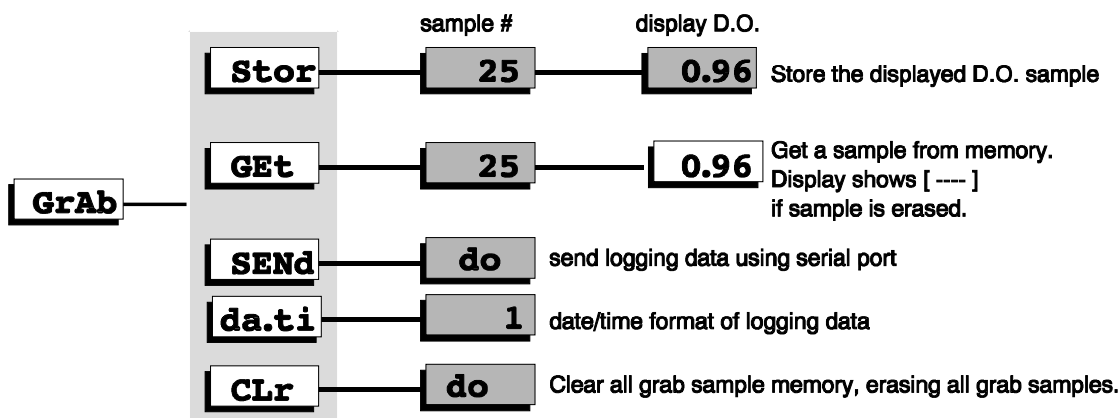

Figure 23 Grab sample menu
3. From the grab sample menu select [Stor]. Refer to figure 23.